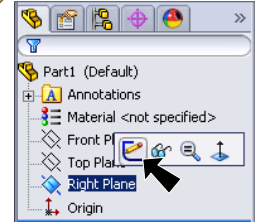

Fig. 1
Step 3. Click **Right Plane**  in the Feature Manager and click **Sketch**  from the Content toolbar, **Fig. 1**.